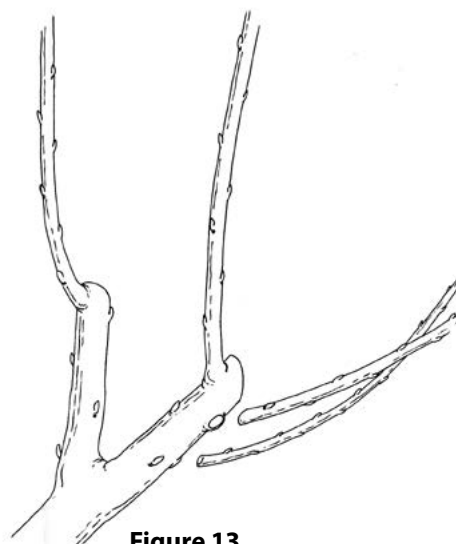

Figure 13
- When multiple renewal leaders grow from the stub, they should be thinned to the one or two strongest. Remove weak leaders as soon as possible to enhance the strength of the renewal leader to keep it vertical as it grows and becomes fruitful (Figure 13).